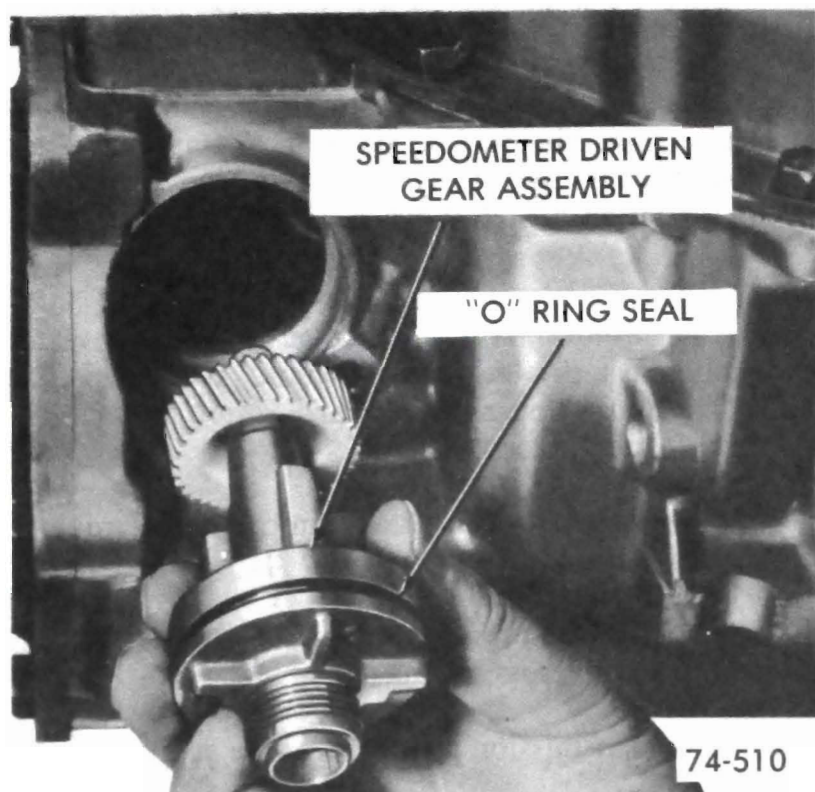

Figure 76-46
4. Withdraw speedometer driven gear assembly from case. See Figure 76-46.